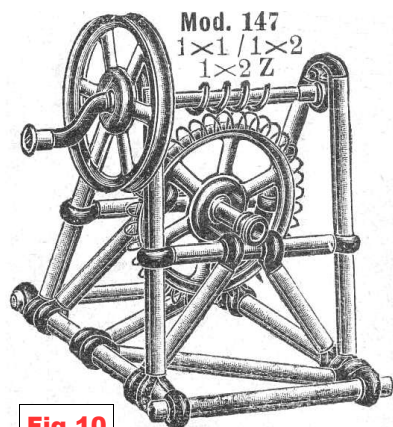

Fig. 10
• The Patent described in 18/521 does indeed correspond to **FANTASIE 'R'**. Fig.10 on p11 of the Manual is identical to Fig.5 of the Patent, and one manual models is marked G.F.N. 1932. (G.F.N. = Gebr. Fleischmann / Nürnberg)
meshes with the Gears (Fig.10).